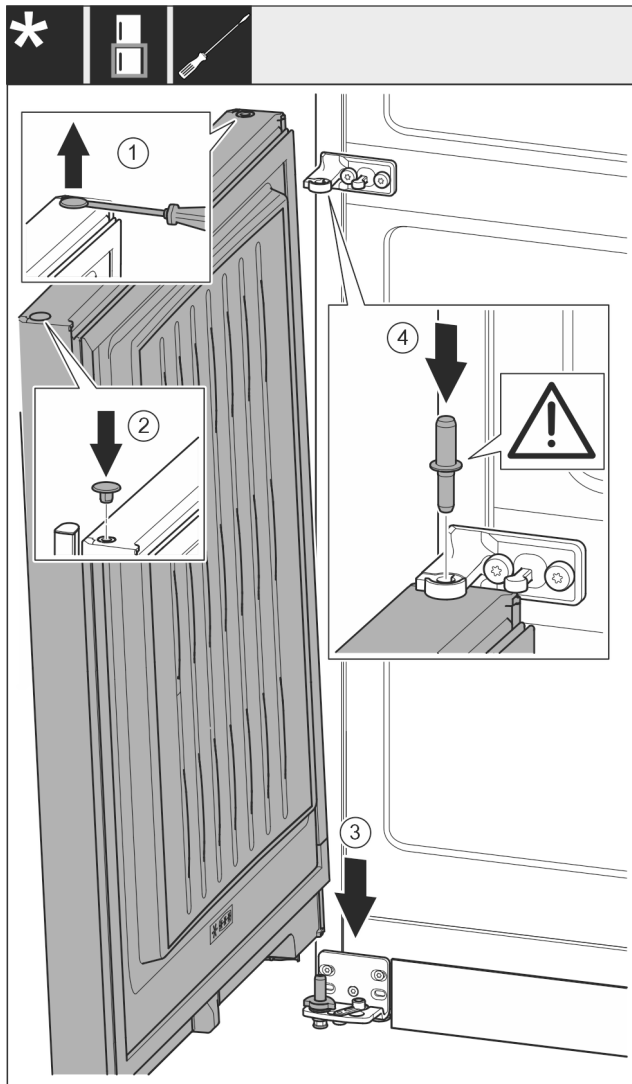

Fig. 56
- Use a slotted screwdriver to lift the plug Fig. 56 (1) carefully and pull it out.
- Re-insert the plug Fig. 56 (2) on the other door side.
- Lower the door Fig. 56 (3) onto the bottom bearing bolt.
- Insert the centre bearing bolt Fig. 56 (4) through the centre bearing block in the lower door. Ensure that the latching cam is pointing towards the rear.